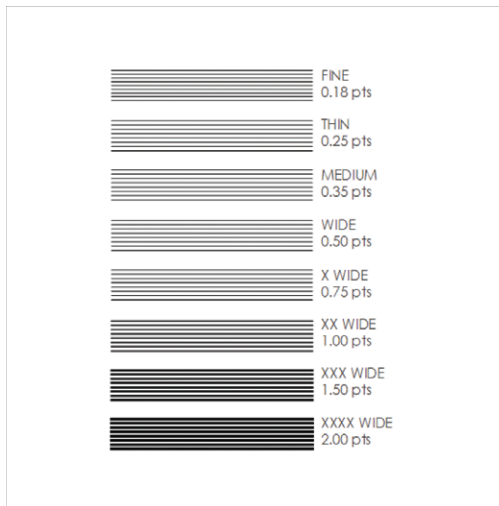

Figure 13.37 The final palette
8. Change all stroke widths and corresponding descriptions as shown in Figure 13.37.